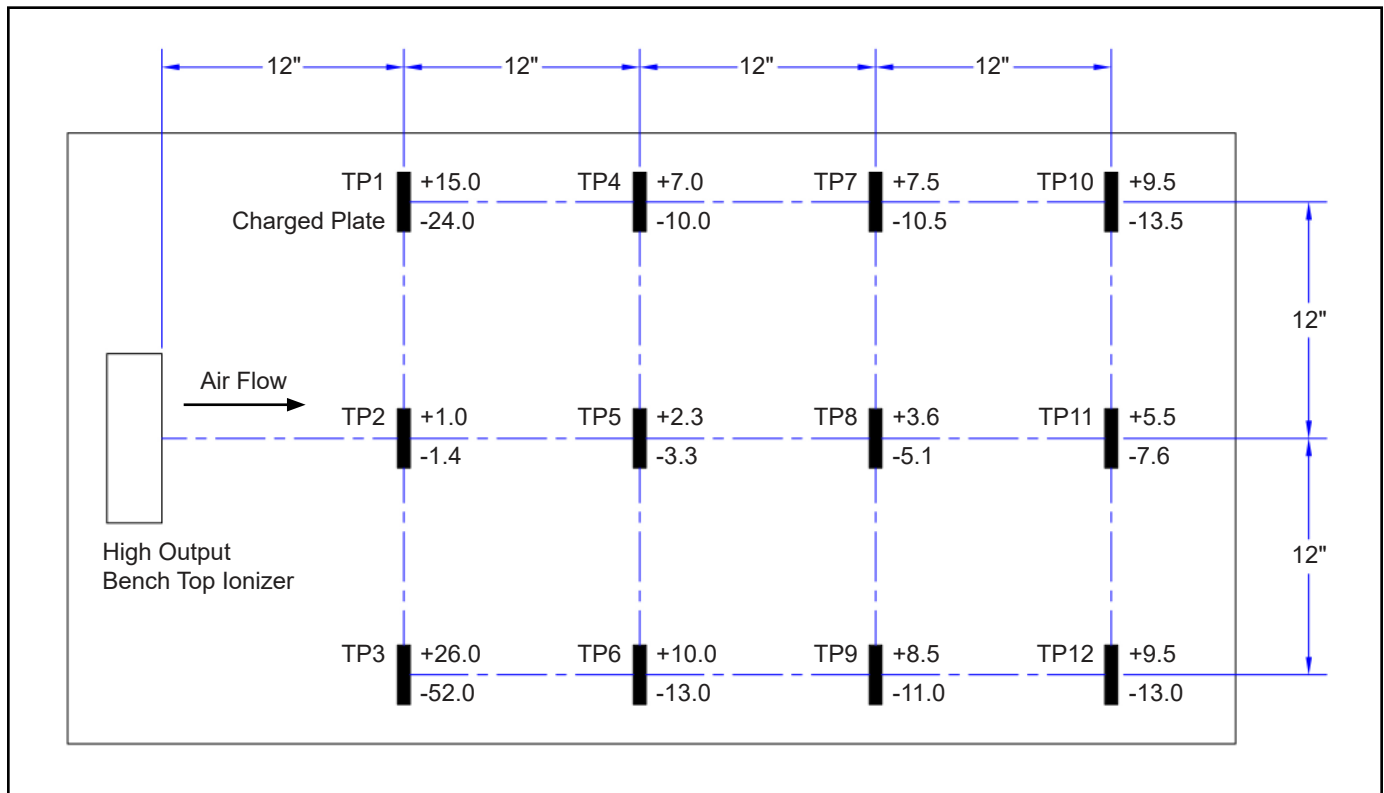

Figure 5. Neutralization (Discharge) Times at 120VAC / 220VAC, 60Hz input
5. Test the neutralization (discharge) time by applying a  $\pm 1,000$  volt charge on the charged plate analyzer. The neutralization (discharge) time should be less than 2 seconds. See figures 5 and 6 for typical discharge times. The required limit per ANSI/ESD S20.20 is “user defined”.
The comparative efficiency of benchtop ionizers is determined by a standard test published by the ESD Association: ANSI/ESD STM 3.1. Typical positive and negative discharge times (1000V - 100V) measured using this standard are shown in Figures 5 and 6. The performance of the ionizer was measured with the unit positioned as shown, with the fan speed on high and without a filter.